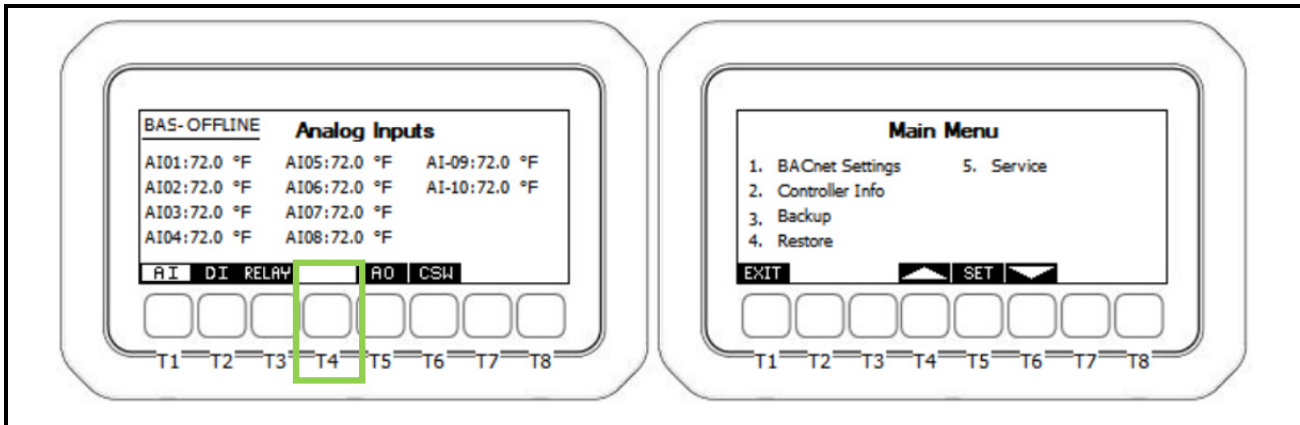

Figure 3-8 - Visograph Main Menu
To enter the Main Menu, the display must be on the Analog Inputs screen shown in *Figure 3-8*. Press and hold the **T4** key for three (3) seconds and to access the menu. Use the **T4/T6** keys to move through the list of options and the **T5 SET** key to enter a menu.